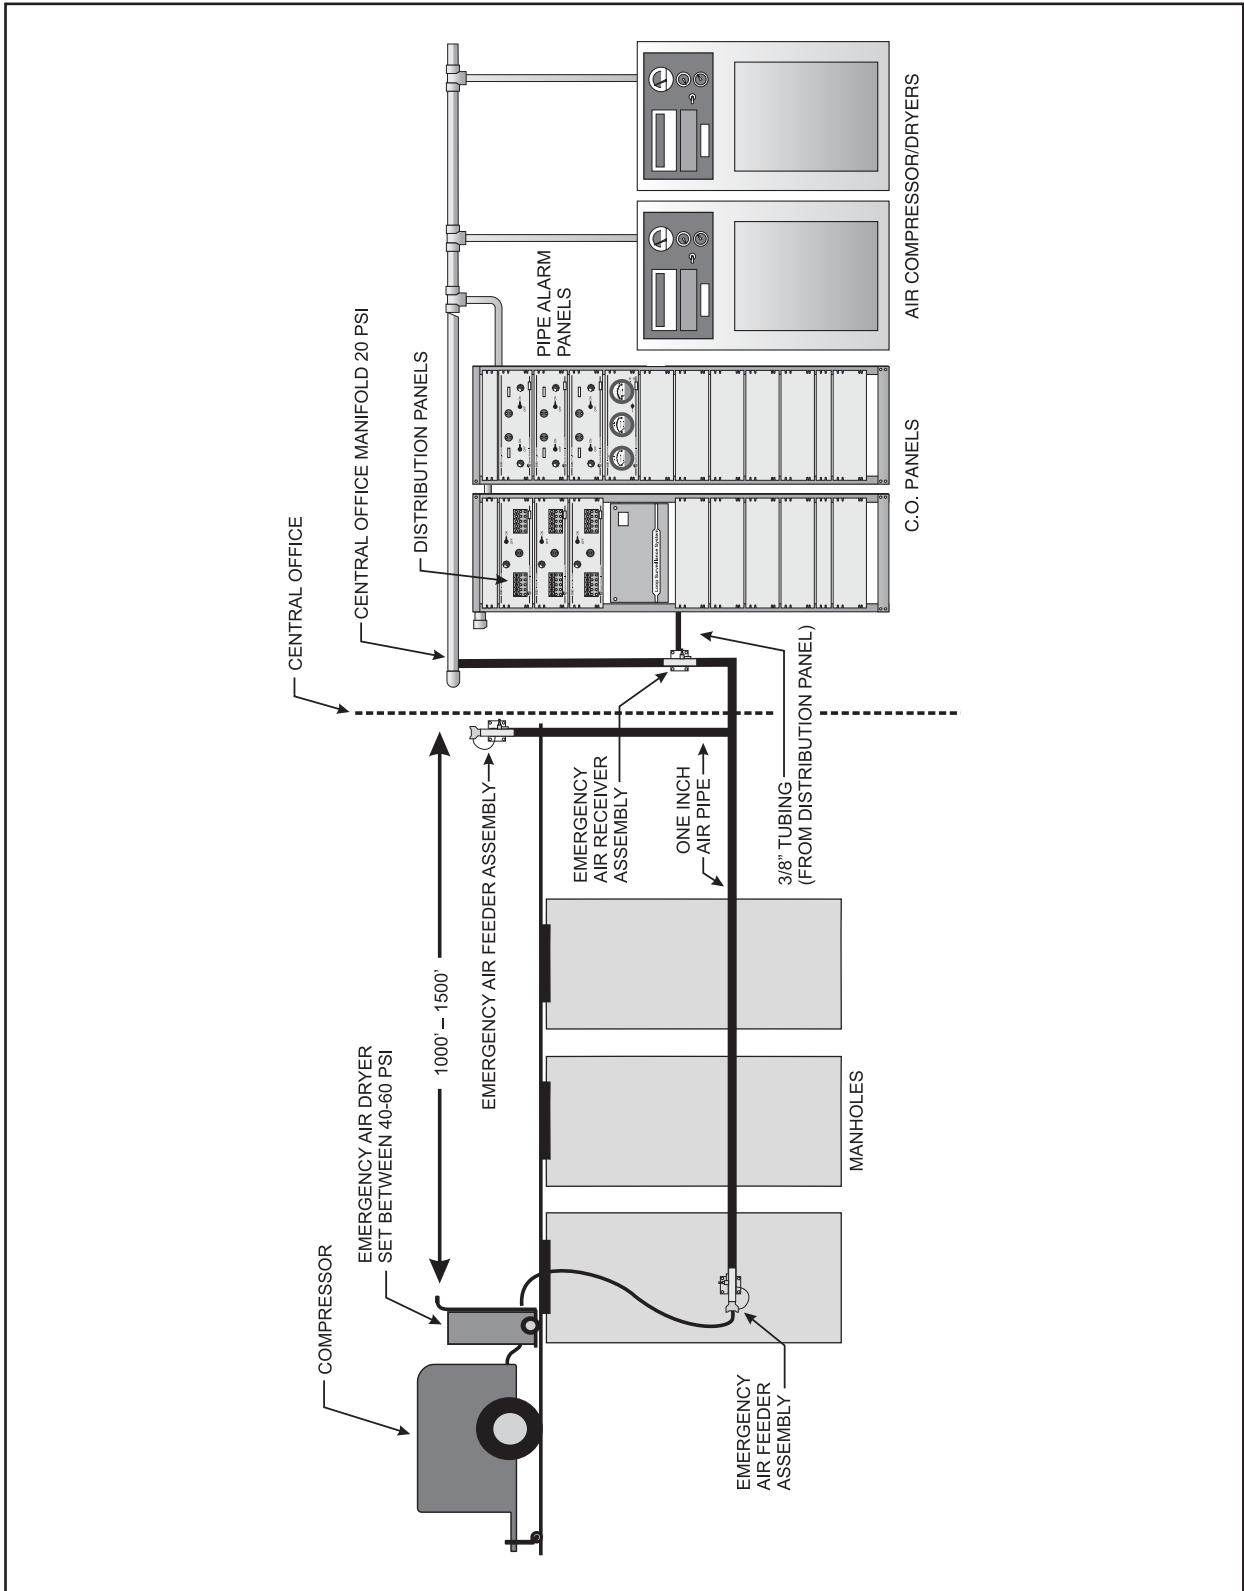

Figure 1—System Schematic
The important components that comprise the new Emergency Air Dryer Protection System are described below and illustrated in Figure 1. Please note that a standard telco air compressor must be used with the Emergency Air Dryer to fulfill the high delivery pressure (psi) requirement of the system:
*Note:* As shown in Figure 1, another Emergency Air Feeder Assembly can be installed outside the central office in order to supply air to the office during routine dryer maintenance.
A suitable manhole should be selected for the installation of the Emergency Air Feeder Assembly. This manhole must have conduit available from the central office vault in order to accommodate the placement of the one inch air pipe. The manhole also needs to be kept dry to eliminate the need for pumping, which could significantly delay access to the hole—especially if water from adjacent manholes contributes to the volume. Finally, the manhole needs to be located away from major traffic routes to ensure quick access during an emergency, and there should be space available near the entrance to the manhole for parking a telco truck and setting up the compressor (Figure 1).